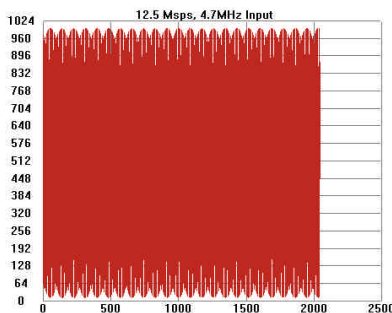

Figure 3. Good data capture of a 4.7MHz input signal at 12.5Msps
*Figure 3* shows a good data capture of 4.7MHz input at 12.5Msps with a shorting jumper on JS1.